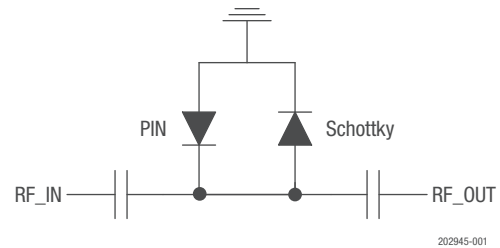

Figure 1. SKY16602-632LF Block Diagram
A functional block diagram is shown in Figure 1. The pin configuration and package are shown in Figure 2. Signal pin assignments and functional pin descriptions are provided in Table 1.
**Table 3. SKY16602-632LF Electrical Specifications (Untuned Circuit, Reference Figure 1)**